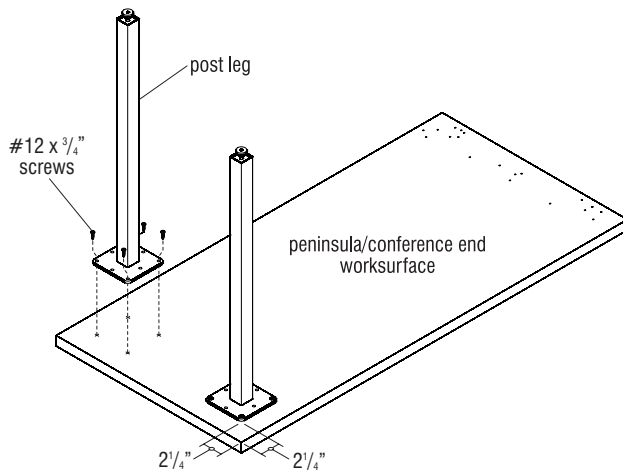

Figure 16 - Post Leg to Peninsula/Conference End Worksurfaces
2. Position both post legs onto the underside of the worksurface, square to the corner with the edge of the mounting flanges spaced 2 1/4" from the outside edges of the worksurface as illustrated. Using the mounting flanges as a template, carefully drill four 1/8" diameter holes to no more than 1/2" deep into underside of worksurface at both post leg mounting brackets. Take care to not drill too deep or damage to the surface may occur. Secure each post leg to the underside of the worksurface using four #12 x 3/4" screws. Take care to not over-tighten the screws (Figure 16).